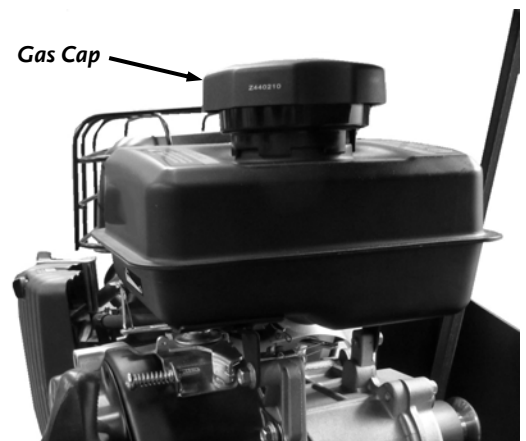

Figure 11
6. Remove the Gas Fill Cap and fill the Gas Tank with fresh, unleaded gas (with a minimum of 85 Octane and no more than 10% Ethanol) to approximately 1" to 1-1/2" below the top of the fill neck to allow for fuel expansion (**Figure 11**). Be careful not to overfill. Install the Gas Fill Cap before starting the engine. See your Engine Owner's Manual for more detailed information.